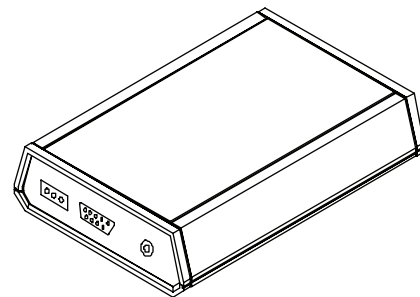

Figure 5: The MCP Gateway
3. The system gateway (See Figure 5) will be supplied at turn on by the Touch-Plate representative along with the null modem cable to connect the gateway to the computer. The representative will have the connector to attach the Belden wire to the gateway at the factory turn-on. The contractor needs to have the Belden 9729 in place.